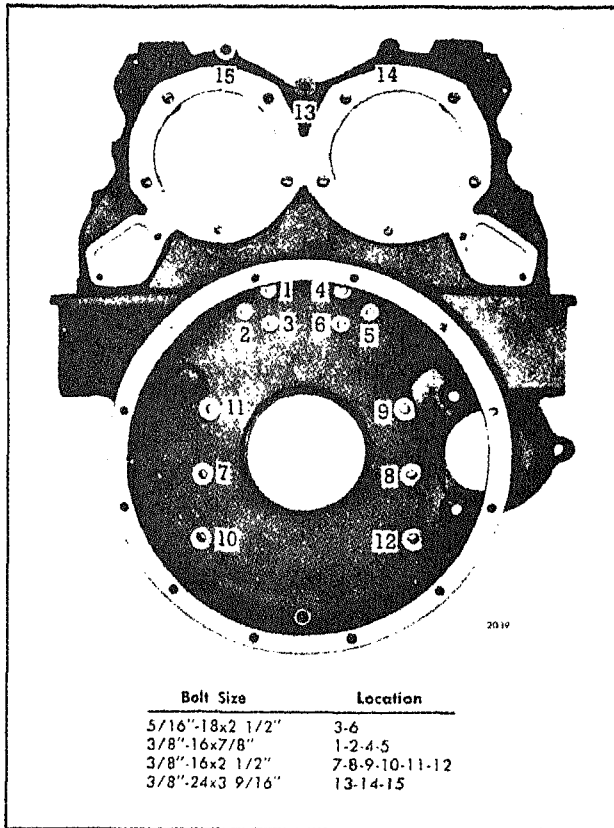

Fig. 3 - Flywheel Housing Bolt Sizes and Tightening Sequence (Operation 1)--In-Line Engine
housing, do not install the six bolts numbered 7 through 12 (Fig. 3) until the clutch housing is installed.
8. On an In-line right hand rotation engine, start at No. 1 and draw the bolts up snug in the sequence shown in Fig. 3.